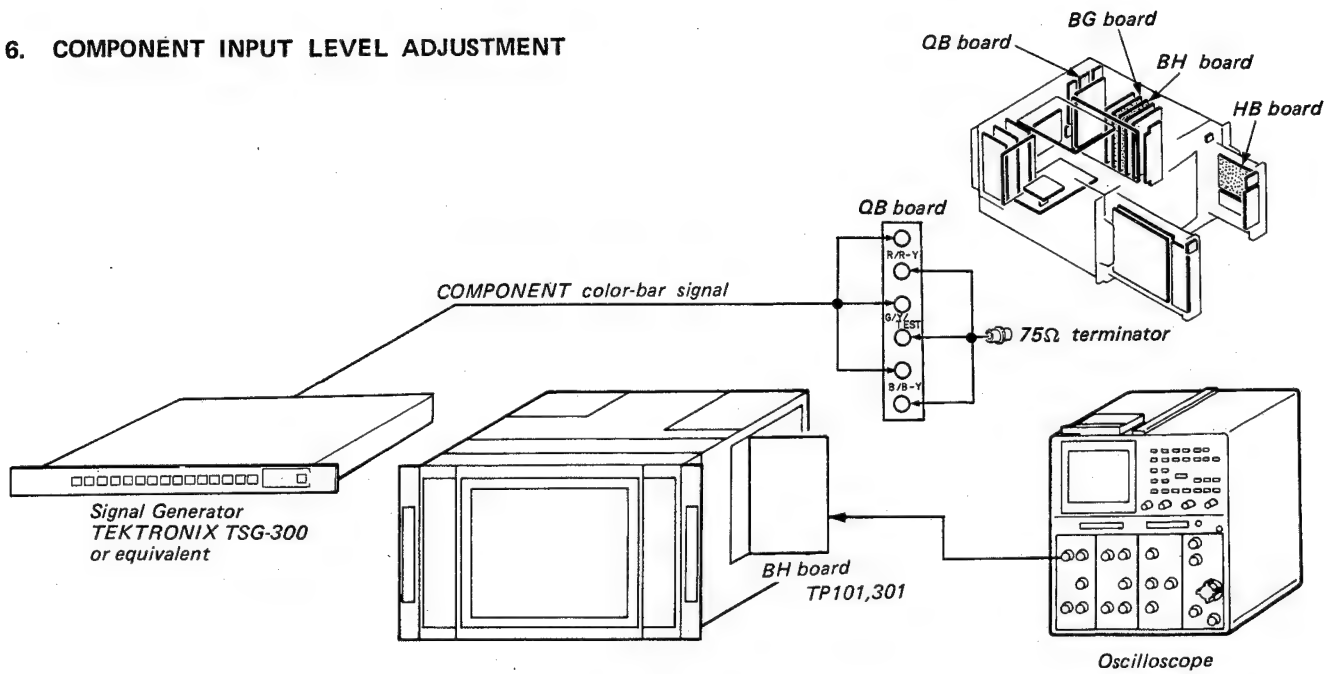
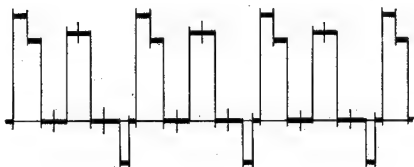

Fig. 6-1
Fig. 6-2
- Complete the connections as shown in Fig. 6-1.
- INPUT selector ..... B (FRONT PANEL (R))
- Adjust RV21 of BG board so that the output waveform becomes flat. (Fig. 6-2)